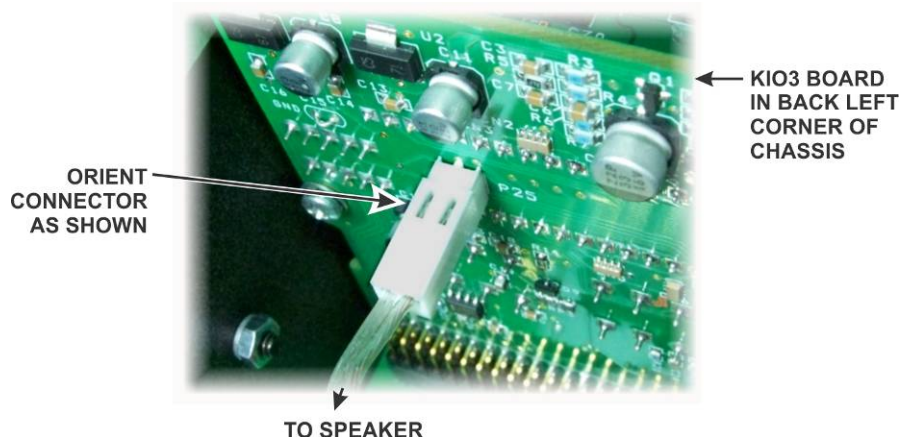

Figure 20. Connecting Speaker Cable.
- ☐ Hold the top cover above the K3S/K3, route the speaker wire under the stiffener bar and plug it into P25 on the KIO3A/KIO3 board at the left rear as shown in Figure 20.